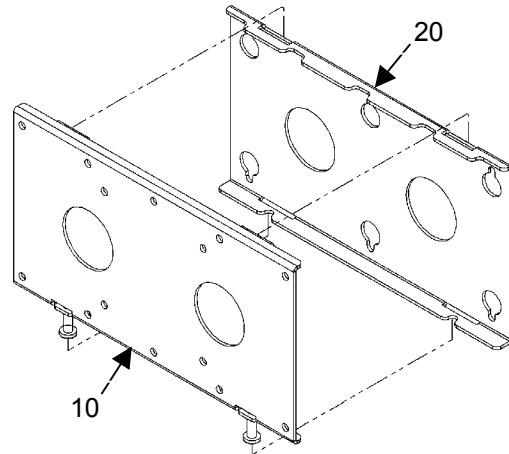

Figure 7. Assemble the Brackets
1. Start the display, with VESA bracket (10) attached, slightly higher than the wall plate (20) to ensure that the tabs of the VESA bracket (10) can line up with the slots on the wall plate (20) (see Figure 7).
2. Push the display towards the wall and drop down towards the wall plate (20) slots for secure fit.